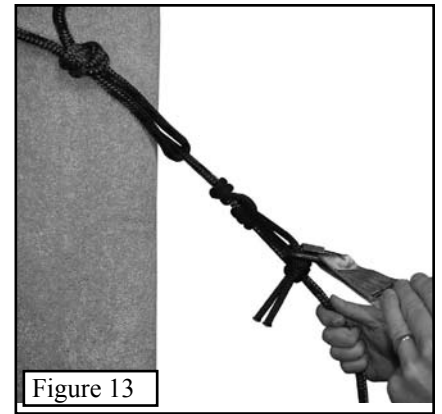

Figure 13
Step 1. Now that your platform and seat section are attached to the tree, you are ready to climb. It is **MANDATORY** that you use a safety harness as you climb. **Be sure to read the safety harness instructions for proper use of your safety harness.** Simply attach the safety line to the tree above the seat climber and secure it to the harness for climbing as shown in **Figure 13**.